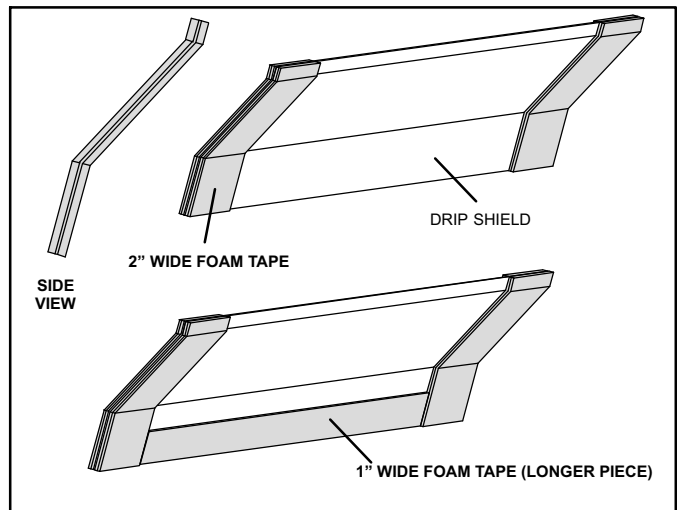

Figure 7. Applying Foam Tape to Drip Shield
4. The provided foam tape creates a seal between the drip shield and the coil so that water does not leak into the air stream. The foam tape pieces are precut. Apply the tape to the drip shields as illustrated in figure 7 and specified as follows:
- Apply the longer piece of 1-inch wide foam tape at the bottom of each shield between the end pieces of tape. See figure 7.